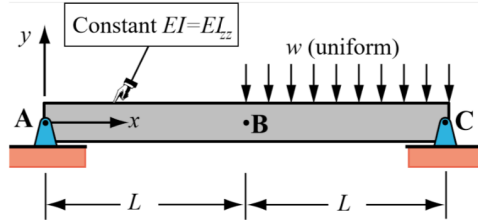

Figure 1: Simply supported beam with uniform load over right halfspan.
The beam of Figure 1 is simply supported (SS) at both ends. Find: (a) statically determinant or indeterminate (b) expression of the deflection function  $v(x)$  using the second order method, and (c) deflection at midspan  $x = L$ ; both in terms of the data  $L$ ,  $E$  and  $I_{zz}$ .